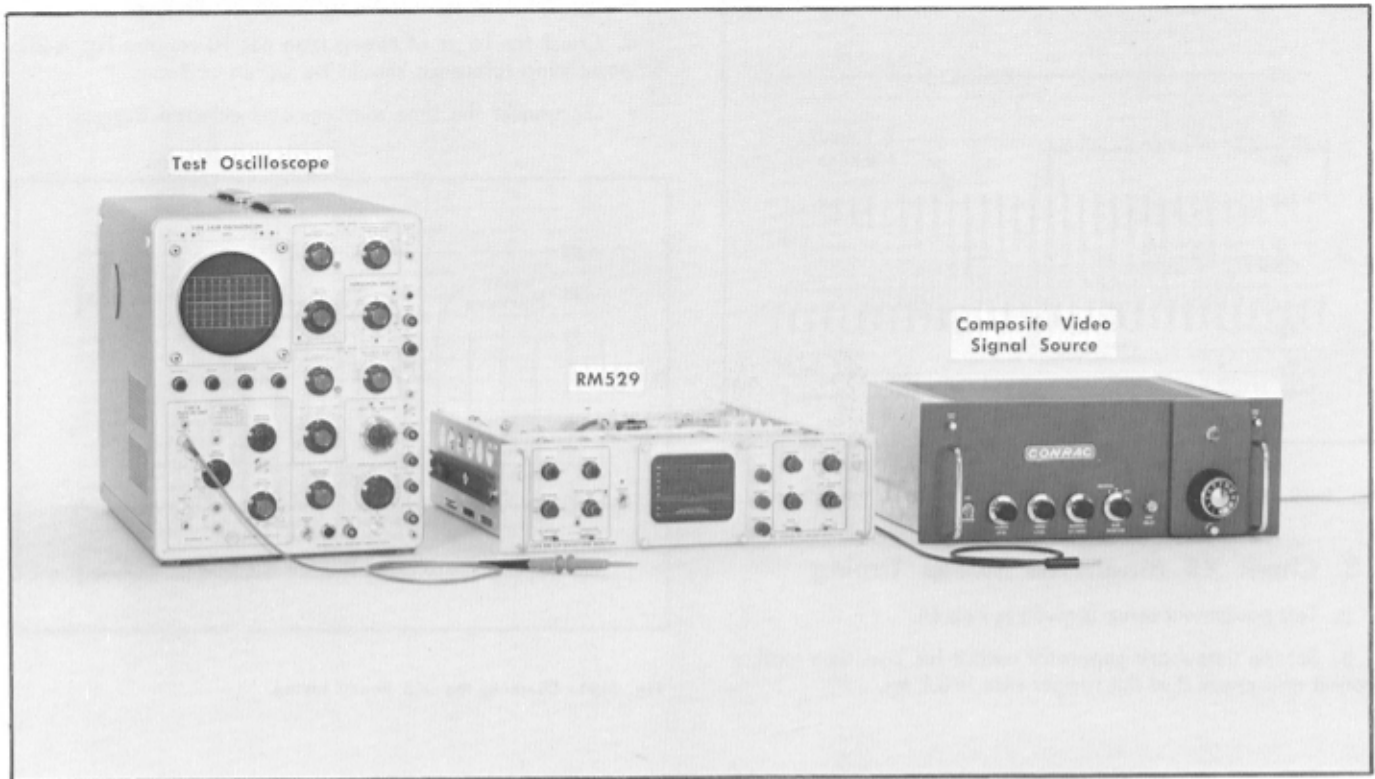

Fig. 6-22. Test equipment required for steps 19 through 21.
- a. Test equipment setup is shown in Fig. 6-22.